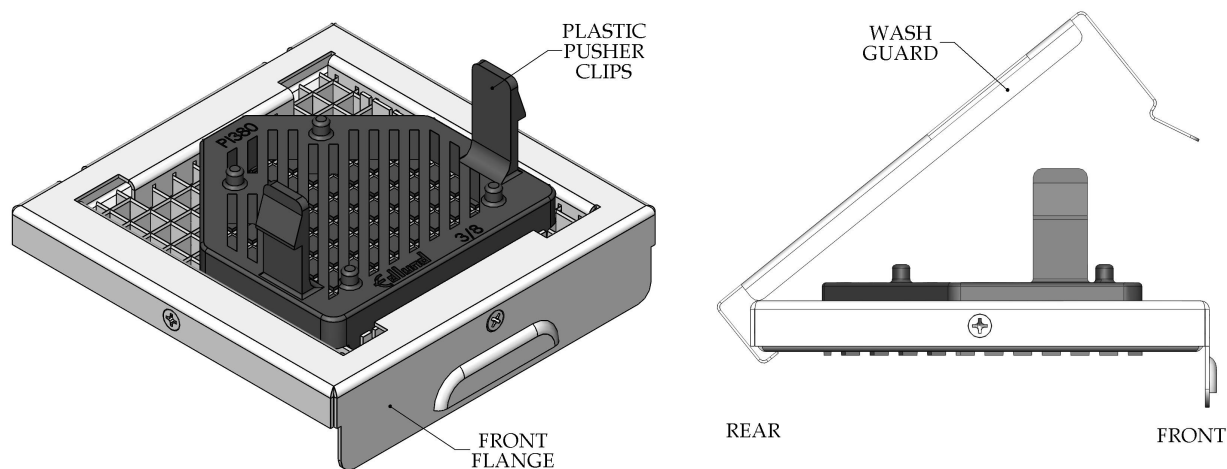

Figure 3
6. Place the plastic Pusher in the Blade Cartridge, aligning the Pusher tips with the corresponding openings in the Blade Cartridge. The Pusher Plastic Clips should be closest to the Front Flange of the Blade Cartridge (*Figure 3*, page 13).
7. Attach the Wash Guard by hooking the rear of the Wash Guard over the rear of the Blade Cartridge (*Figure 3*, page 13). Center the Wash Guard on the Blade Cartridge and rotate the Wash Guard down, aligning the Pusher Plastic Clips with the large Notches in the Wash Guard. Continue to rotate the Wash Guard down until the Front "snaps" over the louver on the front Flange of the Blade Cartridge.